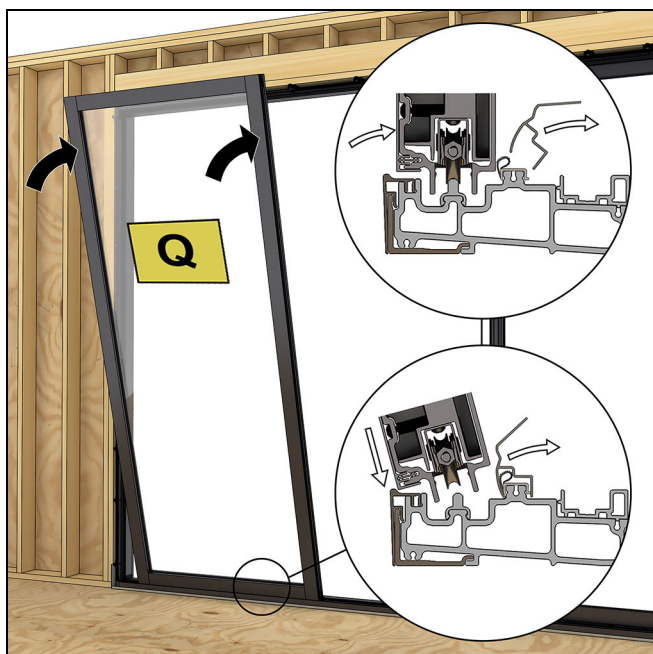

Figure 83 Interior view shown
3. From the interior, install the (Q) stationary panel on the interior track. Set the panel on the roller track, tip up into the frame and then slide all the way to the jamb. See Figure 83 and Figure 84.